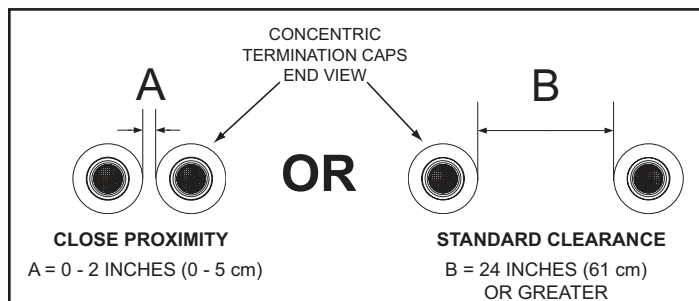
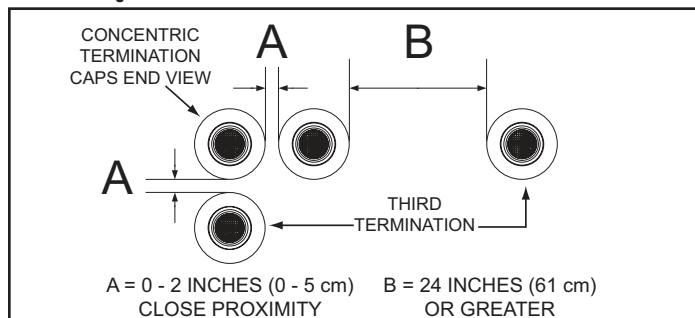
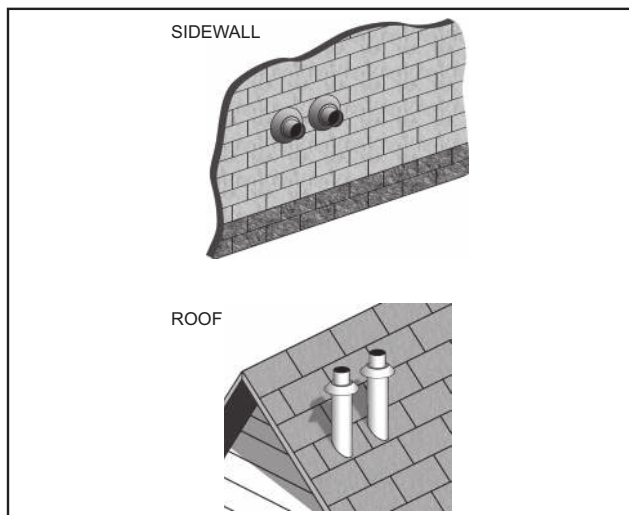

Figure 31. Two Concentric Terminations
Figure 32. Three Concentric Terminations
Figure 36. Two Concentric Terminations
When installing multiple concentric terminations through a roof or through a sidewall the clearances shown in *Figure 31* must be maintained.
1. The clearance between multiple termination caps must be zero inches (touching) to a maximum of two inches (5 cm), dimension A - *Figure 31*, when installing concentric terminations in close proximity. See *Figure 36* (page 32).
2. The clearance between multiple termination caps must be increased to a minimum of 24 inches (61 cm), dimension B - *Figure 31*, when installation in close proximity (above) is not possible. This is the standard clearance.
1. When installing three concentric terminations through a roof or through a sidewall the third termination may be installed in close proximity as indicated by dimension A in *Figure 32*.
2. If close proximity installation of the third termination is not possible the third termination may be installed as indicated by dimension B in *Figure 32*.
2. Four is the maximum number of concentric terminations that may be installed in a group where all terminations are in close proximity as shown in *Figure 31*.
Two concentric terminations may be installed in close proximity as shown in *Figure 36* or with standard clearances when this arrangement is not possible. See *Figure 31* (page 31) for detailed information on clearances. See *Figure 32* (page 31) when installing three concentric terminations.